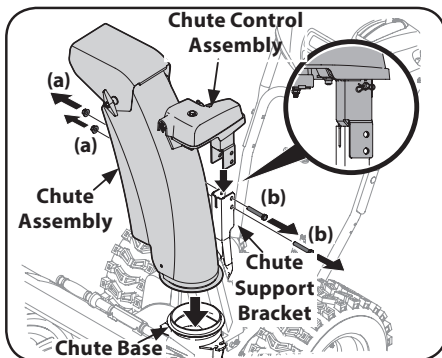

Figure 2-36
1. Remove lock nuts (a) and hex screws (b) from chute support bracket (this will require two wrenches). See Figure 2-36.